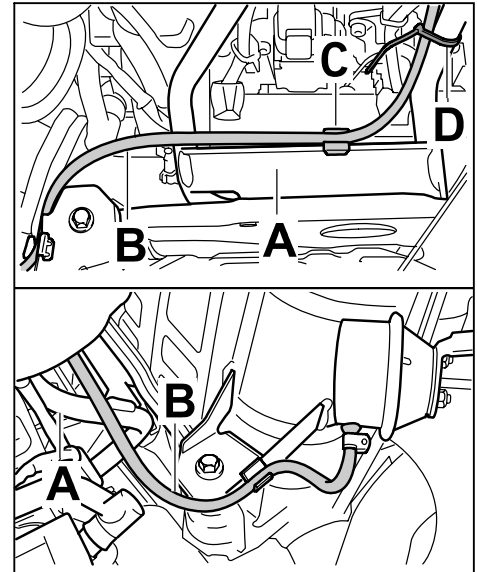

Figure 8
- 3.5 Position rear muffler on the rear muffler holder at the engine side (⇒ *Figure 8 -A-*) with the help of a second person, who must pull the auxiliary lines into the engine compartment at the same time, and pre-fit loosely using new M8 nuts (3 x 900.380.005.09).
- 3.6 Clip hose (999.181.295.40; ⇒ *Figure 8 -B-*) into the hose clip (999.591.746.02; ⇒ *Figure 8 -C-*) and secure it to the rear muffler holder at the engine side using a tie-wrap (⇒ *Figure 8 -D-*).